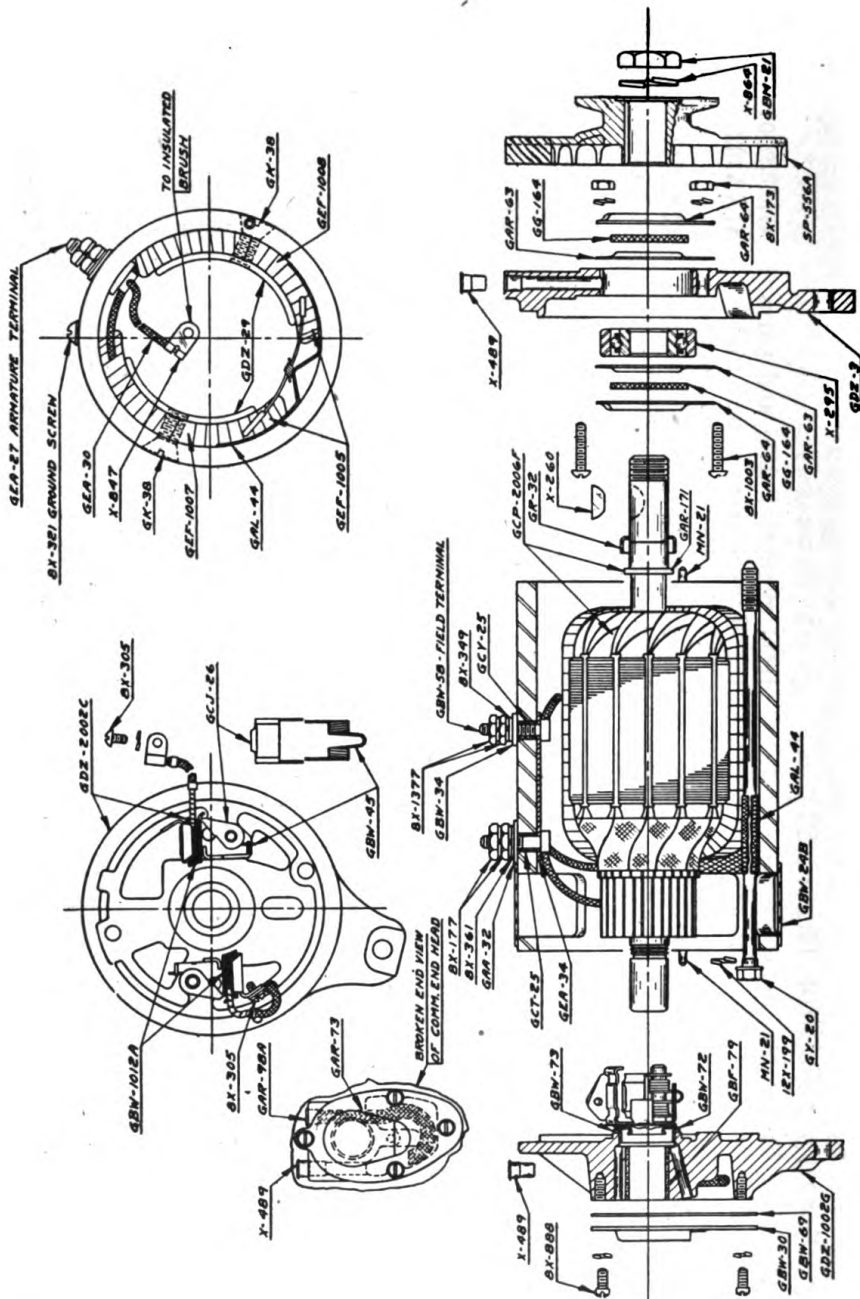

Figure 21.—Low voltage charging generator
g. Low voltage charging generator (figure 21).—